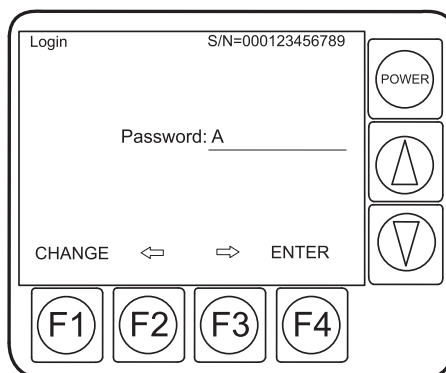

Figure 14 Enter password screen
3. Press **F2** (Left arrow) or **F3** (Right arrow). The Enter Password screen is displayed (refer to Figure 14 on page 23). A box prompt to enter the password is displayed. Passwords can be a minimum of one character and a maximum of eight characters. Initially, the box prompt will contain the character "A".